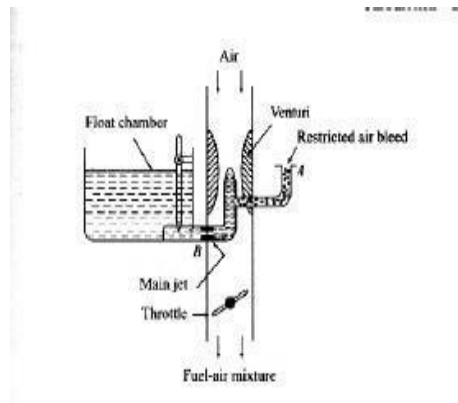

Figure: 4 Air bleed principle in a typical carburetor
Figure 4. illustrates a principle of an air-bleed system in atypical modern downdraught carburetor. As could be seen it contains an air-bleed into the main nozzle. An orifice restricts the flow of air through this bleed and therefore it is called restricted air-bleed jet that is very popular. When the engine is not operating the main jet and the air bleed jet will be filled with fuel. When the engine starts, initially the fuel starts coming through the main as well as the air bleed jet (A). As the engine picks up, only air starts coming through the air bleed and mixes with fuel at B making a air fuel emulsion.